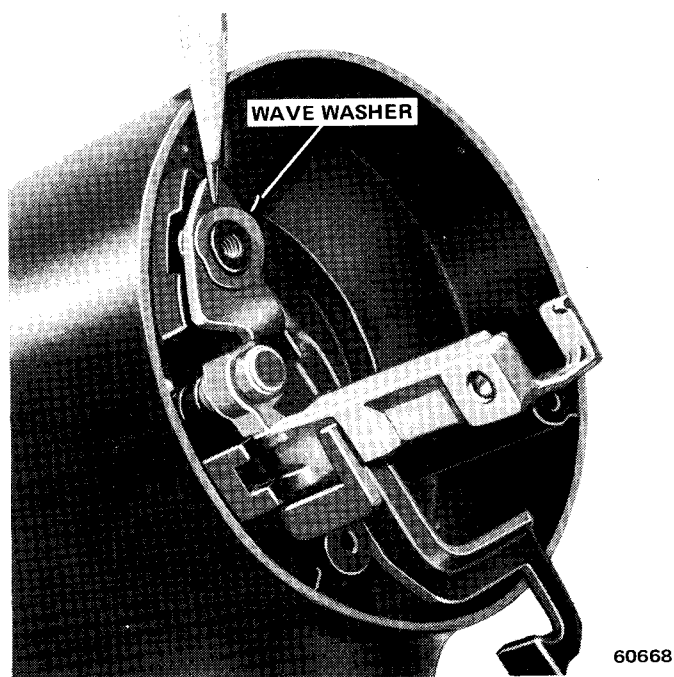

Fig. 11-14 Wave Washer Position
(18) Remove wave washer from release lever pivot and remove release lever and spring (fig. 11-14).
(7) Coat wave washer with multi-purpose grease and install on post over release lever (fig. 11-14).